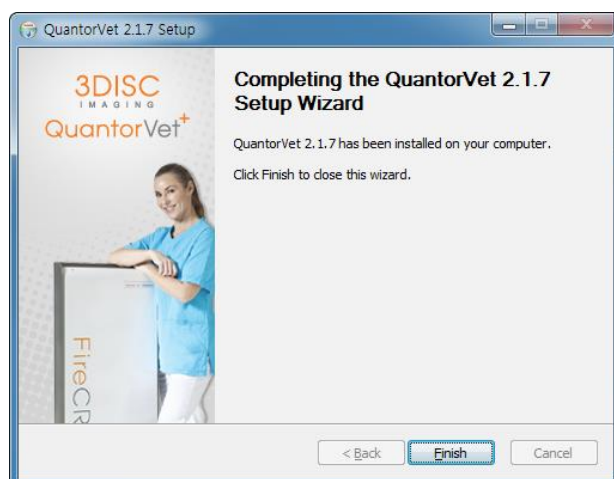

Figure 2.10 Installation Finish Dialog Box
- If installation is successful, Figure 2.10 will show up. Click "Finish" to finish the installation.